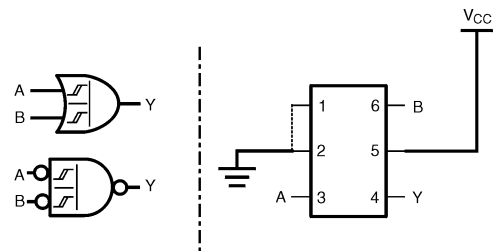

Figure 12. 2-Input OR Gate
4. C_{PD} is defined as the value of the internal equivalent capacitance which is derived from dynamic operating current consumption (I_{CCD}) at no output loading and operating at 50% duty cycle. (See Figure 12) C_{PD} is related to I_{CCD} dynamic operating current by the expression: